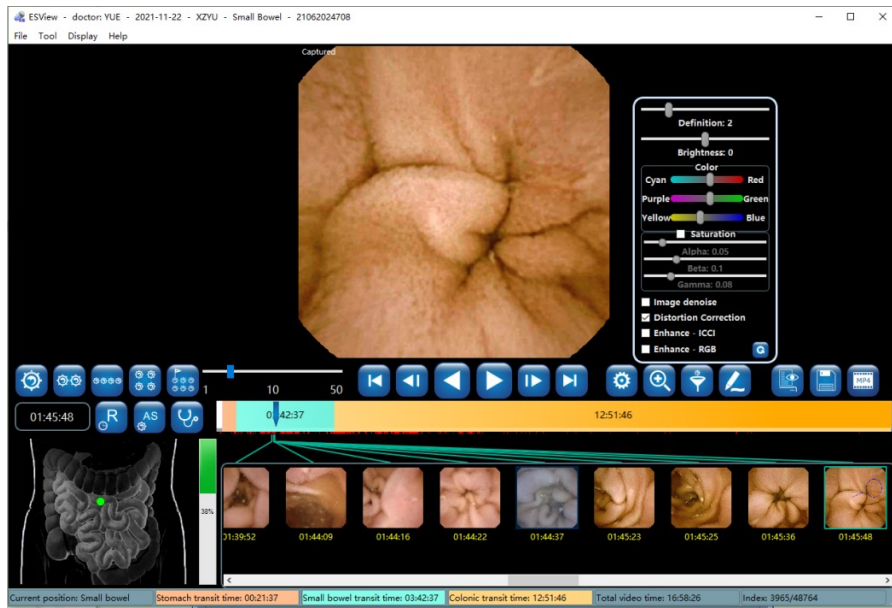

Figure 4-33: Distortion Correction
- Check the “Distortion Correction” box to correct image distortion (Figure 4-33).